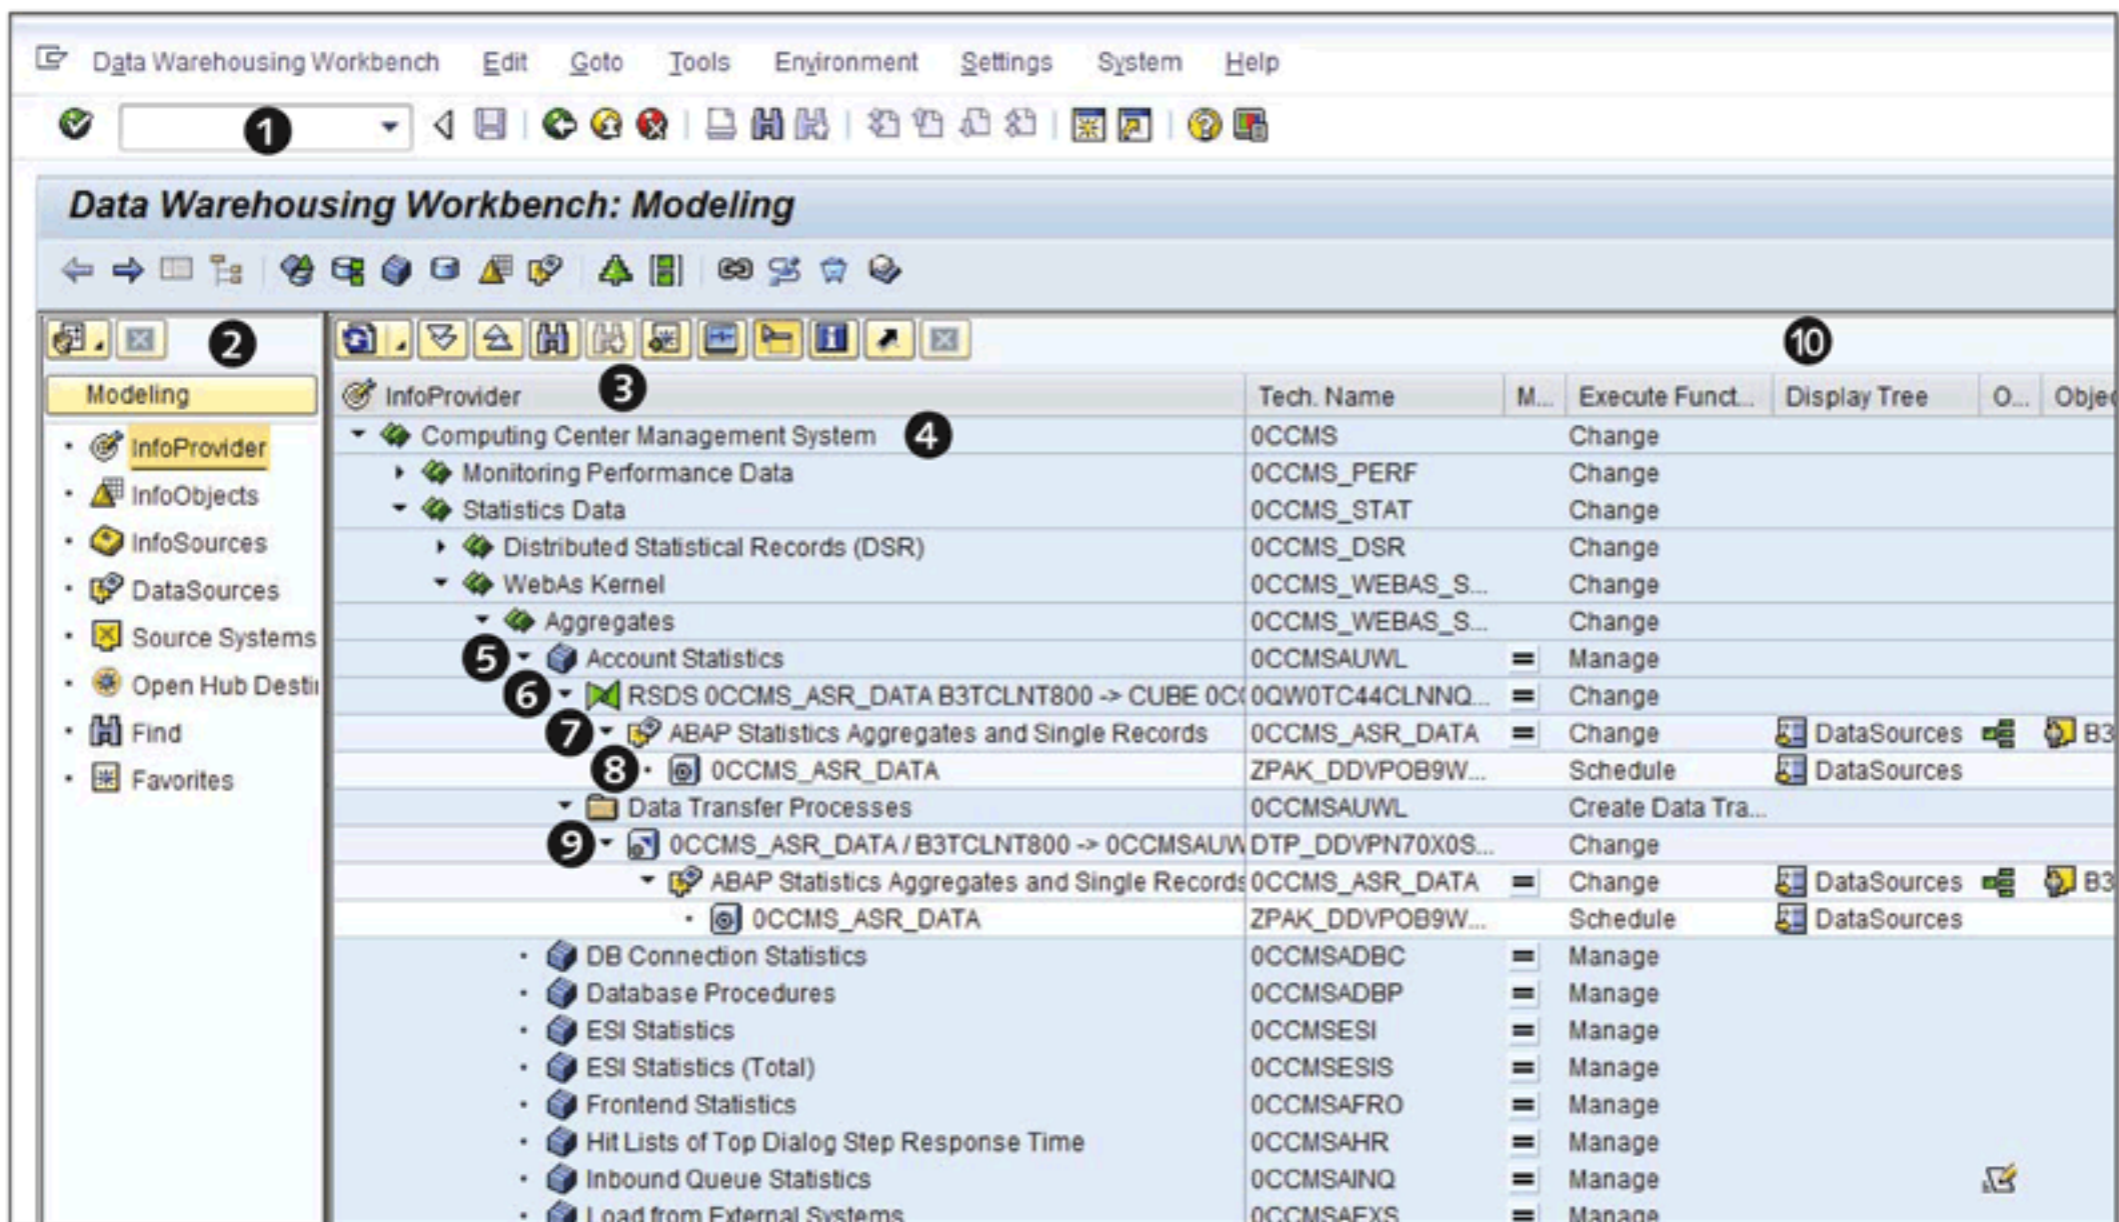
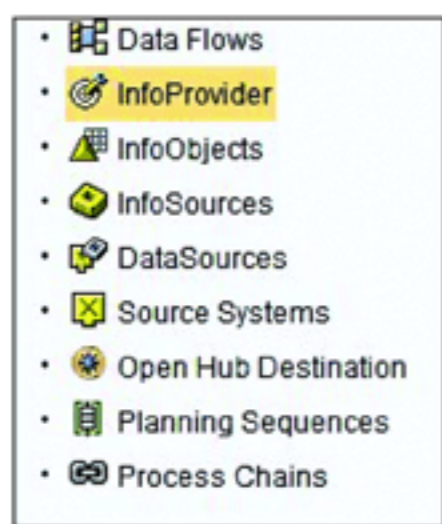

Figure 2.9 The DWW
Figure 2.10 Icons for Various Objects in the DWW
The DWW is the central tool for developers and administrators (Figure 2.9). You can create, maintain, monitor, and administer SAP NetWeaver BW objects using the DWW.
To start the DWW, enter Transaction RSA1 in the COMMAND field (1 of Figure 2.9).
Executing Transaction RSA1 calls the DWW (Figure 2.9). The screen is divided into two panels; the left panel (2) is known as the *navigator section*, and the right panel is known as the *tree section* (3).
By default, the DWW opens in the MODELING option, which is the focus of this section. (The other options are discussed in Section 2.4.) Different suboptions are available under MODELING, which are different types of objects that can be modeled in the DWW. If you select the INFOPROVIDER option, the right side displays the InfoProvider tree (3 of Figure 2.9), which consists of different objects associated with InfoProviders. Each object has a description and a unique technical name. In SAP NetWeaver BW, different icons are used to represent different objects. Some of these icons are shown in Figure 2.10.
The InfoProvider tree displayed in Figure 2.9 illustrates the InfoProvider hierarchy. For example, the InfoArea with the *description* COMPUTER CENTER MANAGEMENT SYSTEM has the *technical name* OCCMS (4 of Figure 2.9). All of the objects
related to this InfoArea are displayed under it in a hierarchical fashion, which is an arrangement known as *nesting InfoAreas*. InfoAreas can be nested at multiple levels; under the AGGREGATES InfoArea, for example, the ACCOUNT STATISTICS *InfoCube* (technical name: OCCMSAUWL) is created as shown in ❸ of Figure 2.9. In other words, we can say that InfoCube OCCMSAUWL is attached to the AGGREGATES InfoArea. This InfoCube is a part of the data flow in SAP NetWeaver BW, and all objects related to the InfoCube are displayed under it. The objects marked with ❹, ❺, ❻, and ❼ in Figure 2.9 show the visual data flow from a data source to an InfoCube.
Each object supports various functions that you can maintain and configure. To call the list of various functions available for an object, select the object, and call the context menu. The most common function for each object type is available under the EXECUTE FUNCTION column in the tree section (❶ of Figure 2.9). You can see that MANAGE is the most common function available for InfoCubes, whereas CHANGE is the most common function for InfoAreas. By double-clicking on an object, you can start the default function available for that object.